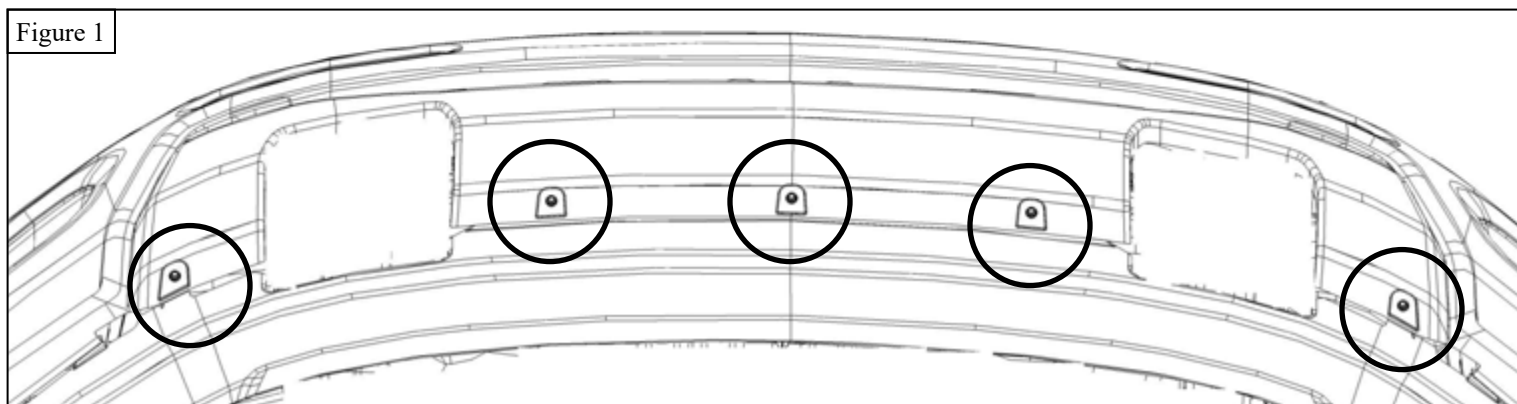

Figure 2
3. Carefully remove the front bumper cover by pulling from the bottom up. See **Figure 2** for reference.